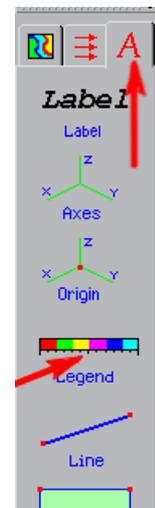

Fig.72. The Annotation
- Place a legend in the drawing, using the *Legend* tool from the toolbar under the *Annotation* tab (signed with a letter – see Fig. 72). Click on the Legend button. The window displays and you can define additional properties of the legend (font size, markers, digit format, etc.).